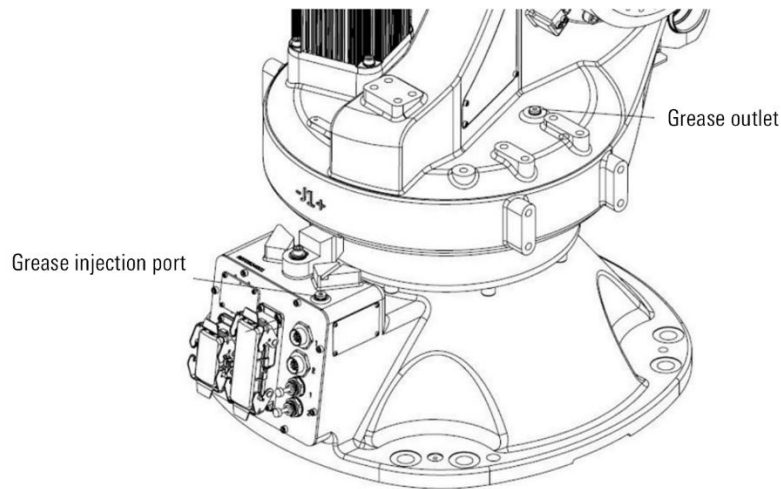
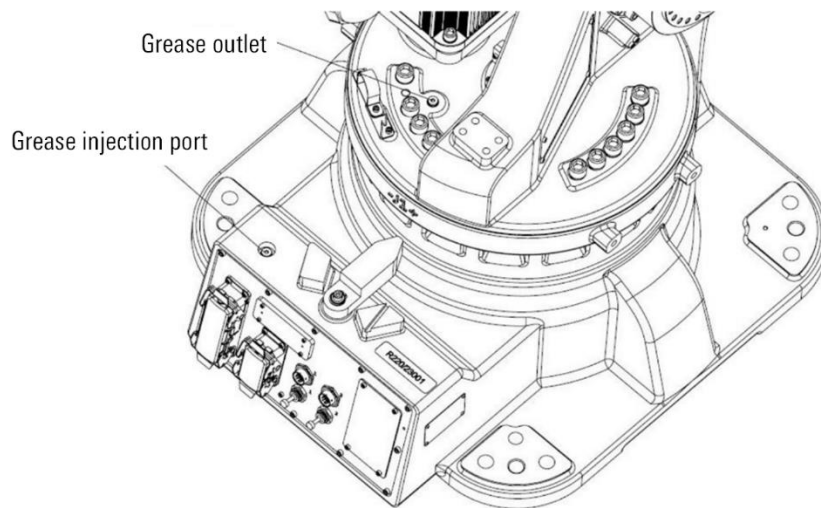

Figure 12-11 AIR50-2260/AIR80-2260/AIR35-2700/AIR20-3100 replacement of J1 axis reducer grease
Figure 12-12 AIR50-2700/AIR80-2560 replacement of J1 axis reducer grease
- Step4. Remove the grease outlet M10x1 plug, as shown in Figure 12-11 or Figure 12-12.